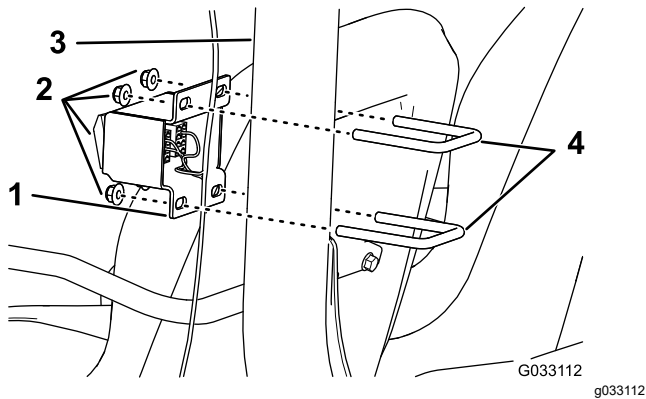

Figure 8
1. For the Multi Pro 1750 and Multi Pro WM machines, install the switch bracket to the front side of the ROPS assembly using 2 U-bolts (3/8 x 2-7/16 x 2-13/16 inches) and 2 flange locknuts (3/8 inch) as shown in Figure 8.